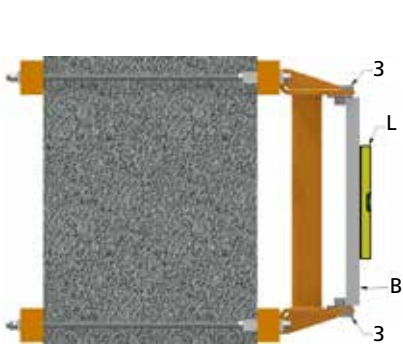

fig.38a
- c. Check the verticality of the rotation axis, by using a level L and a bar B which must be resting directly on the rotation pivots 3 (fig. 38a - 38b).